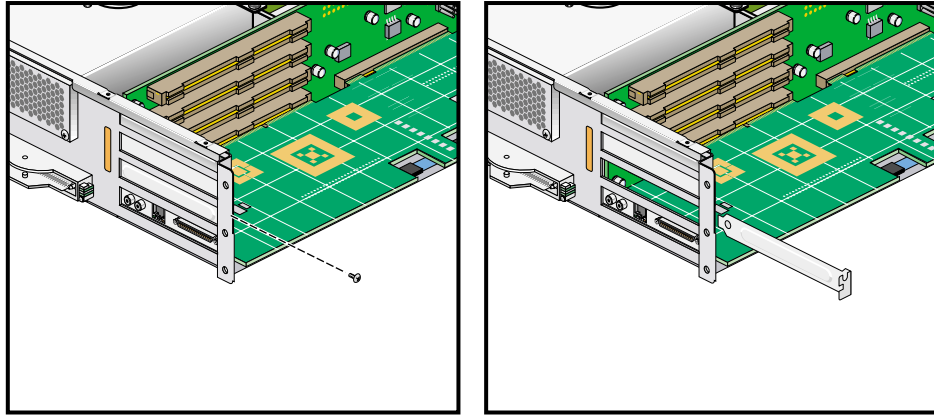

Figure 3-6 Removing the Blanking Plate
10. If a blanking plate covers the slot that is needed for the installation, remove the retaining screw, as shown in Figure 3-6, and the blanking plate.